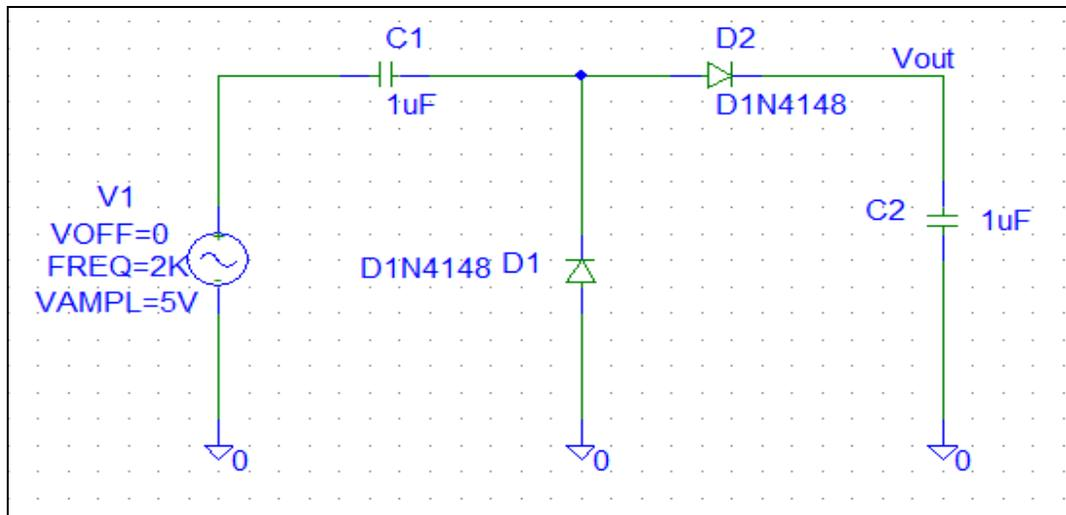

Figure 3.6
1. Draw the circuit as shown in figure 3.6: